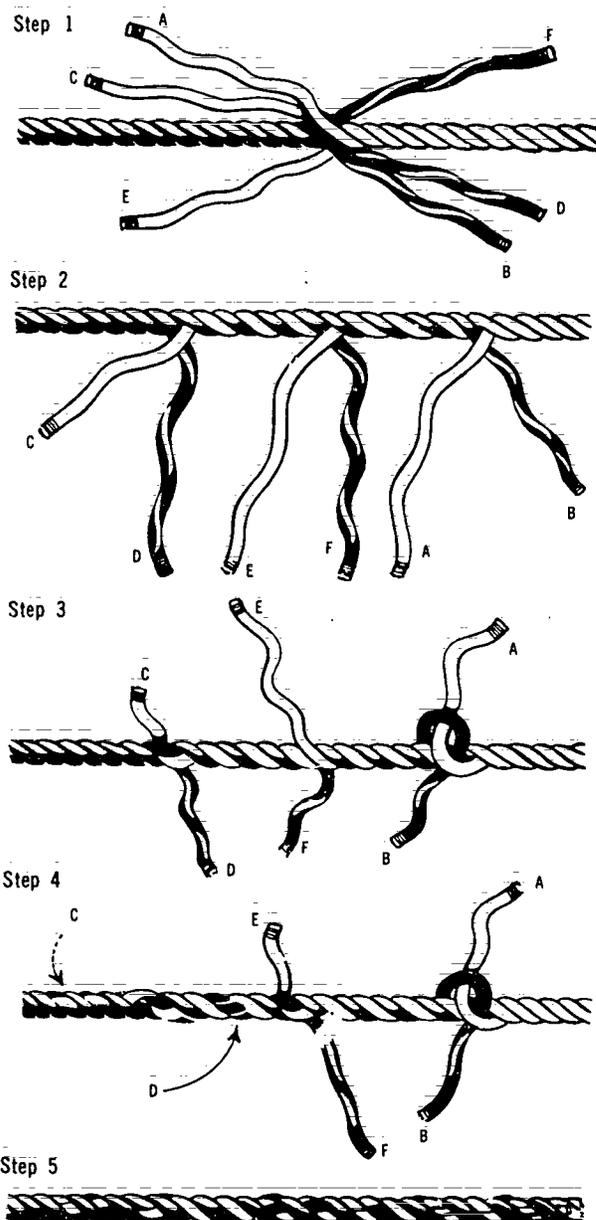

Figure 7-33. Making a Long Splice
- Step 1. To make this splice, begin by unlaying one strand of each rope for 10 or 15 turns, and whip the ends of each strand to prevent untwisting. Then lock the two ropes together by alternating the strands from each end as illustrated in Figure 7-33, Step 1.
- Step 2. Starting at one end, take an opposite pair of strands, A and B, and unlay Strand A. Follow it with Strand B, turn by turn, continuing until only 1' or less of Strand B remains. Keep Strand B tight during this step and pull it down firmly into Strand A's former place. Repeat this operation with Strands C and D. Strand D is unlaid and Strand C is laid in its place. The splice at this stage is illustrated in Figure 7-33, Step 2.
- Step 3. Now each pair of strands is tied loosely together with a simple overhand knot, as indicated by Strands A and B in Figure 7-33, Step 3. Each knot is then pulled down into the rope like Strands C and D.
- Step 4. Each strand is now tucked twice, over and under, as done in making the Short Splice. Figure 7-33, Step 4 shows Strands C and D after tucking. If a smaller diameter splice is desired, tapering can be done by tucking each strand twice more, cutting away some of the threads for each additional tuck.
- Step 5. When tucking is finished, cut all strands off close to the rope and roll the splice on the floor under your foot to smooth it out. The completed Long Splice is illustrated in Figure 7-33, Step 5.